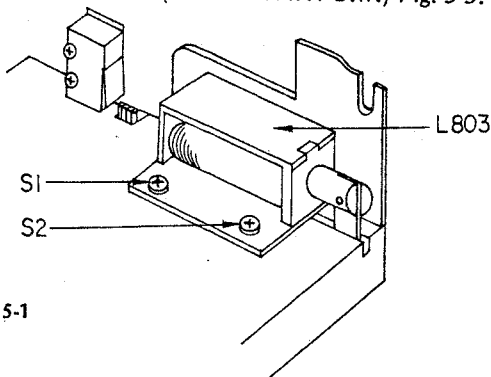
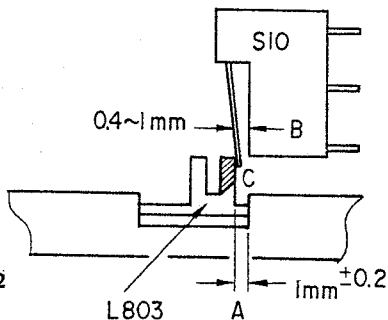

Fig. 5-1
Fig. 5-2
- (1) The Plunger Solenoid L803 is fixed by using track-shape holes. After turning on the Play-Switch and operating the Plunger solenoid, fix this Plunger Solenoid so that its position has a gap B, as shown in Fig. 5-2. Fasten two screws (S1 and S2) shown in Fig. 5-1, after having removed the play-motor. Also it is possible to adjust by bending the oblique line part.
- (2) Confirm that the Micro-Switch can be changed-over steadily by operating PLAY and STOP action.